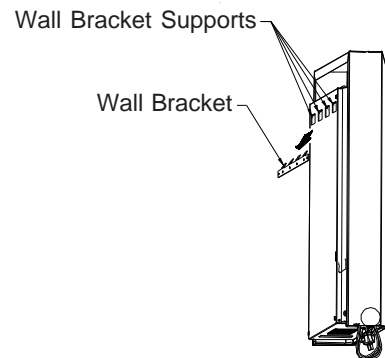

Figure 6
12. Mount the unit on the wall as shown (Figure 6).